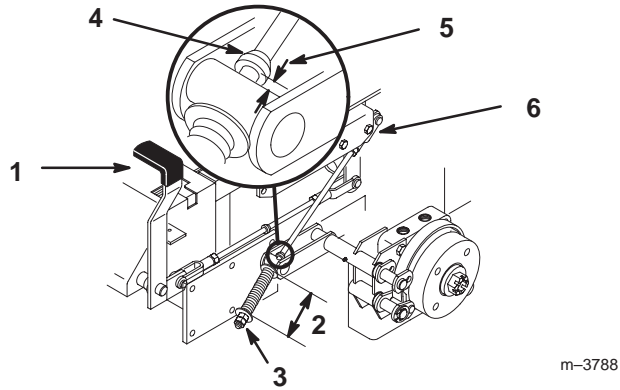

Figure 64
2. Measure the length of the spring. The measurement should be 2-3/4 in. (70 mm) between the washers (Fig. 64).
3. If an adjustment is necessary, loosen the jam nut below the spring and tighten the nut directly below the yoke (Fig. 64). Turn the nut until the correct measurement is obtained. Tighten the two nuts together and repeat on the opposite side of the unit.
6. Measure the distance between the trunnion roller and the collar on the brake rod. The measurement should be 3/16–1/4 in. (5–7 mm) (Fig. 64).
7. If an adjustment is necessary, loosen the jam nut directly below the yoke. Turn the bottom rod until the correct measurement is obtained (Fig. 64). Tighten the jam nut at the yoke.